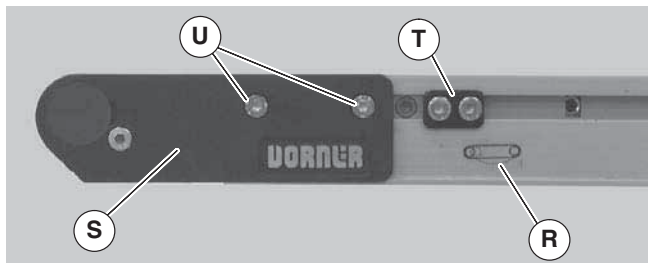

Figure 18
3. On tension end of the conveyor, identified with a  label (Figure 18, item R), push in head plate assembly (S): On both sides of conveyor, loosen and move cam tracking assemblies (T) (if equipped) away from head plates, then loosen fastening screws (U) and push head plate assembly inward.